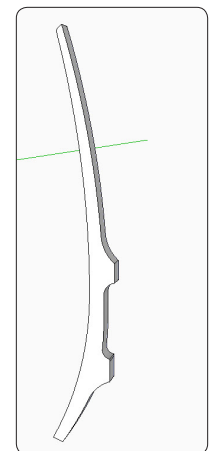

Figure 75. Give the side view of the leg its thickness.
Step 2 Use the Push/Pull Tool to give the side view of the leg its thickness, as shown in Figure 75.